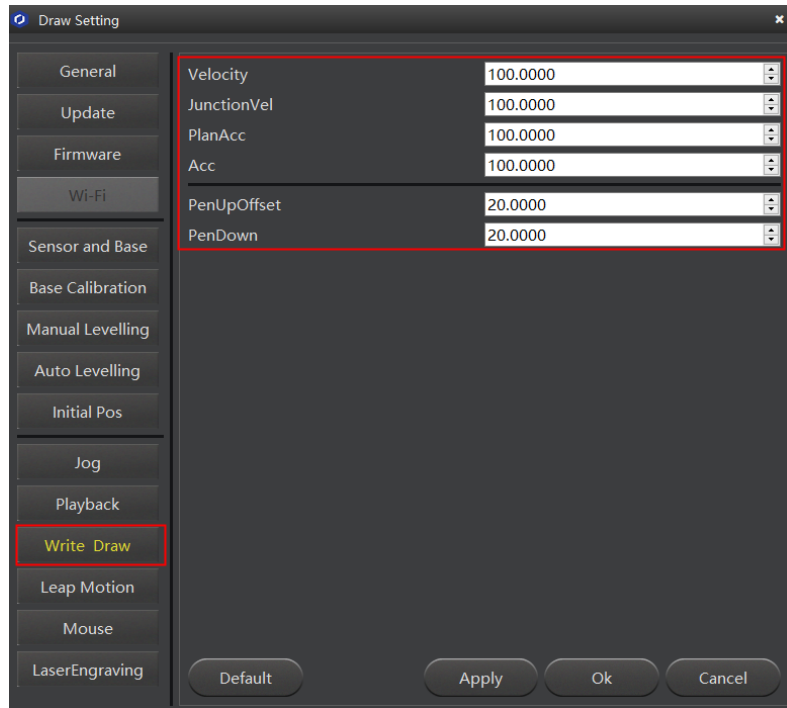

Figure 5.77 Setting the parameters of the Write & Draw function
2. Click **Write & Draw** to set the Dobot Magician's **Velocity** (mm/s), junction velocity (**JunctionVel**: mm/s), **PlanAcc** (mm/s²), acceleration (**Acc**: mm/s²), **PenUpOffset** (mm), **PenDown** (mm), as shown in Figure 5.77.